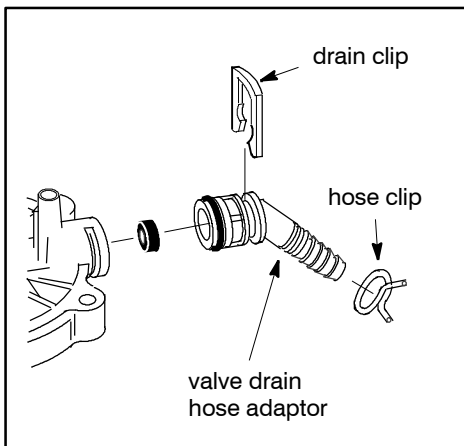

Figure 3
8. Using a needle nose pliers, lift up on drain clip and remove valve drain hose adapter from valve. Set aside. **Figure 3.**
18. Remove hose clamp from valve drain hose adaptor and attach drain tubing to new valve drain hose adaptor. Secure with old hose clamp. **Figure 3.**